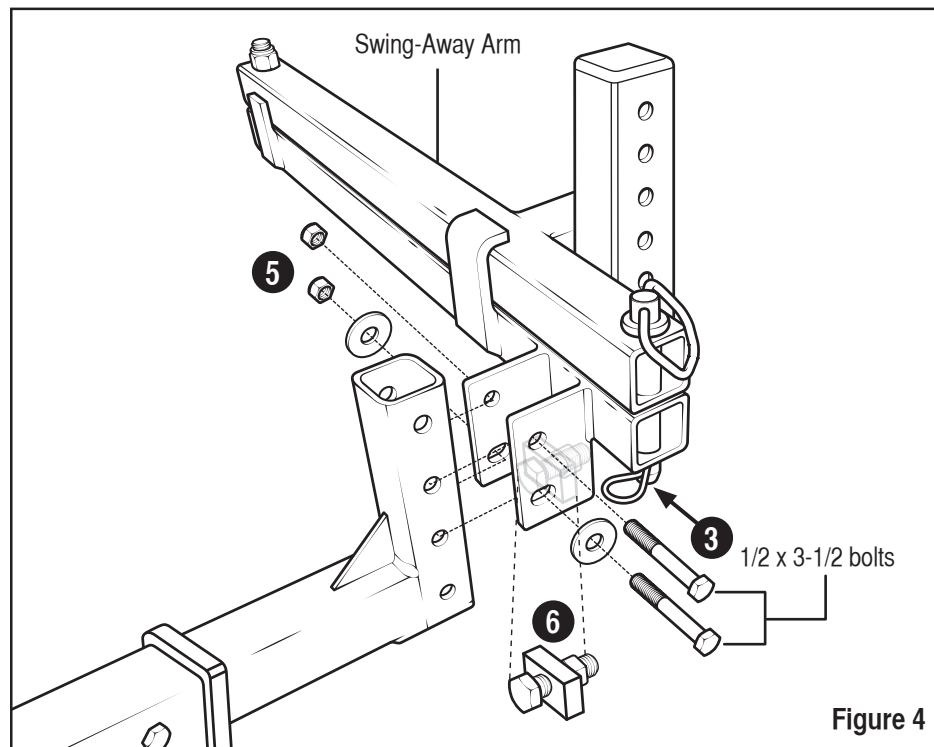

Figure 4
1. Place the Swing-Away Arm over the Hitch Connector and align the mounting holes (**Figure 4**).